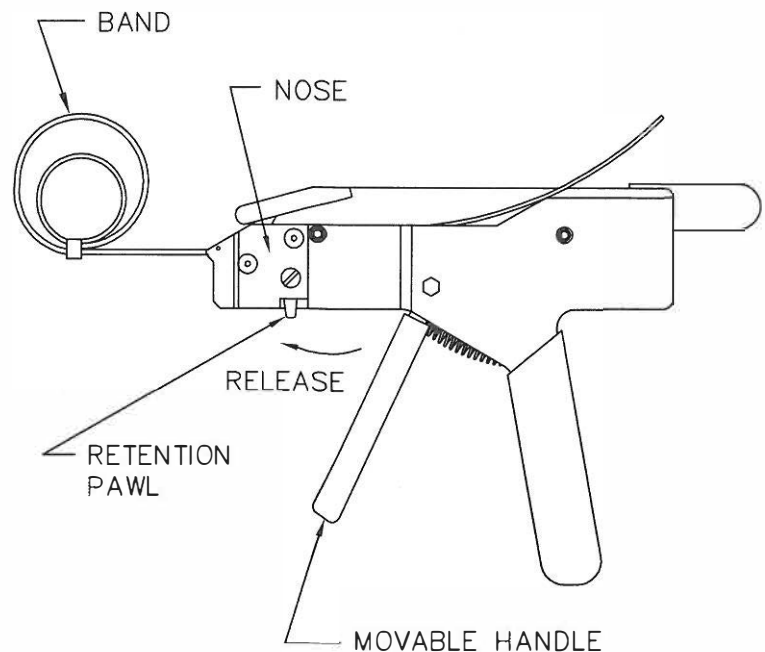

FIGURE 2
- 1.4 At any point in the operation prior to the locking of the movable handle, the band may be loosened or removed by disengaging the retention pawl as shown in Figure 2. When actuating the retention pawl, apply a force on the band away from the tool to remove or loosen the band.